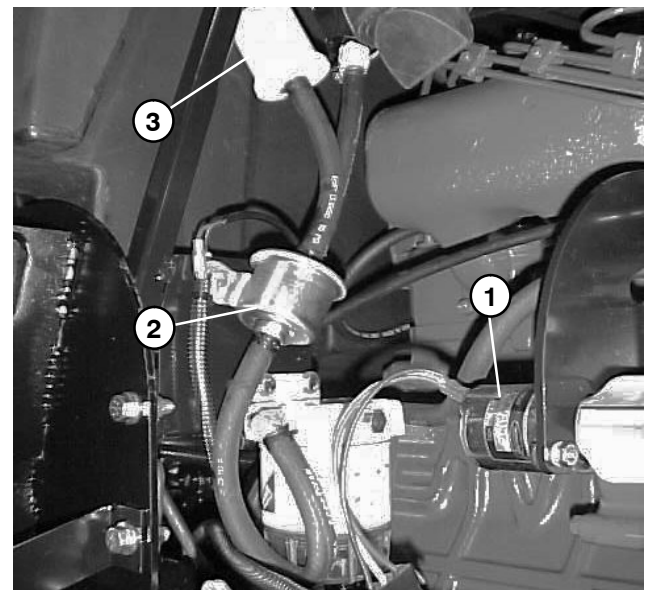

Figure 12
- B. The engine run solenoid and fuel pump (Fig. 12).